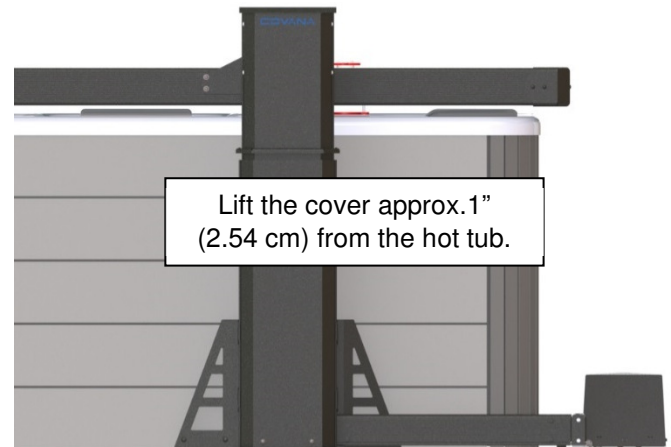

Figure 18
- 1) Lower or raise the roof until it is approx. 1” (2.54 cm) from the hot tub. Ensure the contour seal does not touch the hot tub. (Figure 18)